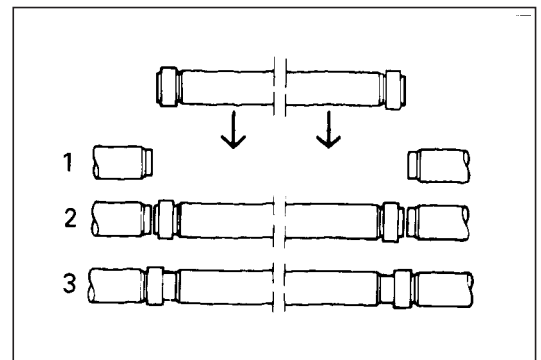

Figure 7.2
6. Place the closure pipe in its final position and pull the coupling over the adjacent pipes up to the home line (*Figure 7.2*, Steps 2 and 3).